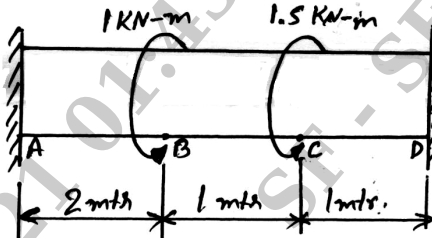

Fig Q6(b)
b. A Bar of circular cross section having a diameter of 50mm is fixed at both ends and subjected to a torque at B and C as shown in Fig Q6(b). Determine maximum angle of twist and shear stresses. Take $G = 7 \times 10^4\text{ N/mm}^2$, $E = 2 \times 10^5\text{ N/mm}^2$.